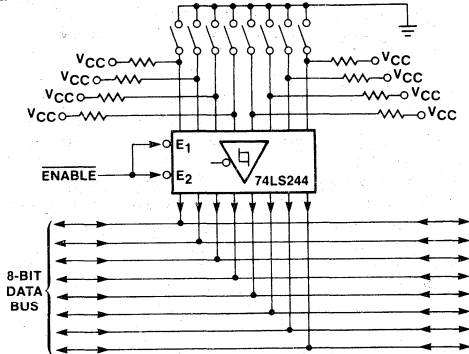

Figure 7. Switch-Setting Reading Circuit
*Reading a switch setting* to establish an externally-defined system parameter, such as a device address, is a mundane but essential task in many microprocessor-based systems. Figure 7 illustrates how a group of eight switches may conveniently be read using a byte-wide buffer such as the 'LS244. Since the switches must be electrically isolated from the bus, the 'LS244's three-state outputs are disabled by control signals originated by the microprocessor until the time comes to read in the switch settings. Because the 'LS244 can supply up to 24 milliamps of  $I_{OL}$  to drive the bus, this simple scheme can be utilized even on heavily-loaded system data buses.